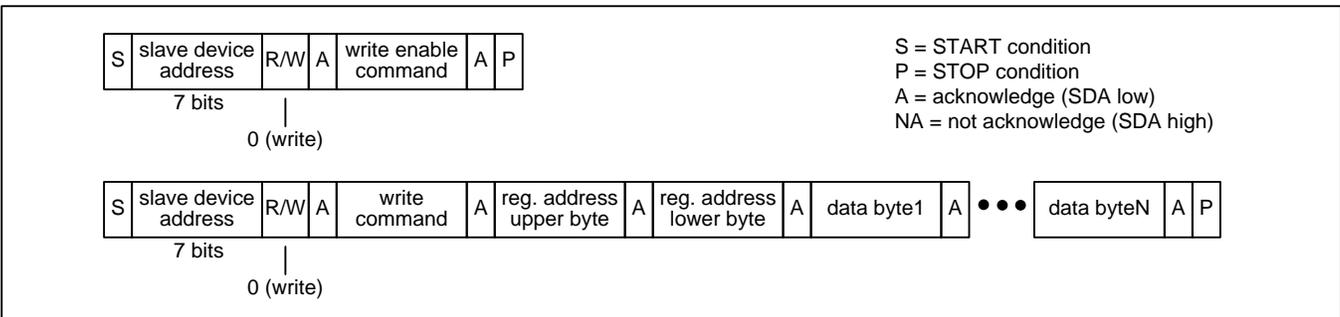

Figure 11 - I2C EEPROM Write Transaction Functional Timing (ZL30261 and ZL30263 Only)
**EEPROM Writes (ZL30261 and ZL30263 Only).** The EEPROM memory is accessible when the **EESEL** bit is 1. The bus master first does an I2C write to transmit the SPI Write Enable command (see Table 3) to the device. The bus master then does an I2C write to transmit data to the device as described in the Register Write Transactions paragraph above. See Figure 11.